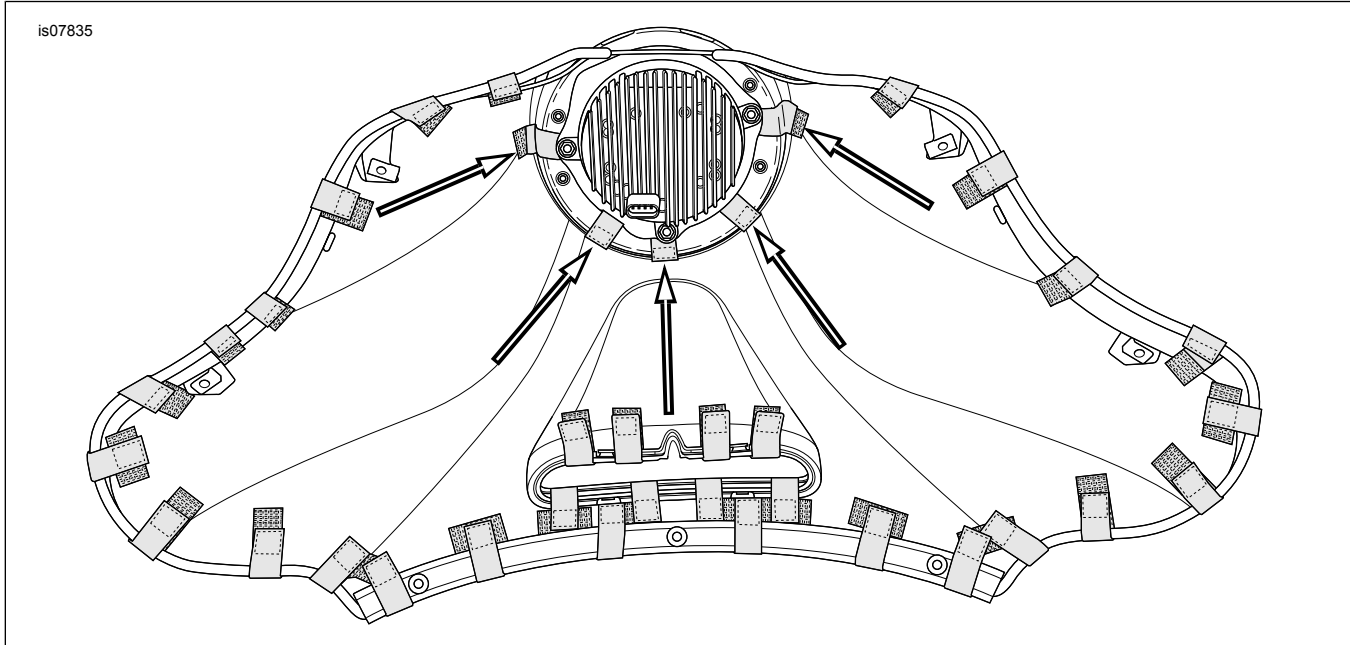

Figure 2. Inside fairing: Bra Installed
11. Install the headlamp trim (2) and headlamp with mounting ring (3). The straps will be pinched between the fairing and headlamp components. Tighten screws (4) to 2.5–3.6 N·m (22–32 in-lbs).
12. See Figure 2. Lay the fairing with the inside facing up. Pull each strap near the headlamp taut and install the fastener strips. Pull evenly to reduce wrinkles.